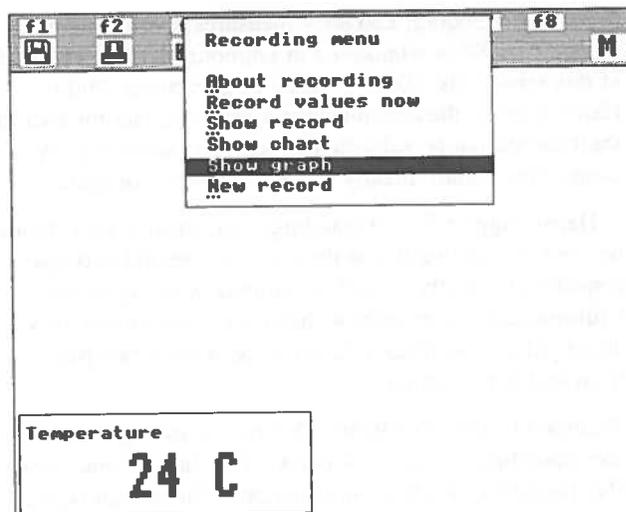

Fig. 4 - Pull-down menu
**Menus:-** A menu bar along the top of the screen (Figs. 4, 5 & 6) is available for much of the time when the program is running. Note that the screen displays shown in this article are representations of what appears on screen when First Sense is running, not genuine screen dumps. Graphs generally appear as yellow or white lines on a black background. Unfortunately this doesn't print well so we did *Draw* representations of the Beeb B and Master screens and used *Paint* to fiddle with the colours on the Arc versions.
Icons1 1 to 3 represent operations carried out when the red function keys are pressed and signify disc, printing and recording/display respectively. Pull-down menus (Fig.4) appear with highlighted bars which can be moved up or down with cursor keys (BBC B/Master/Arc) or a mouse (Arc only). The menu selections can also be accessed immediately by pressing any letter shown on